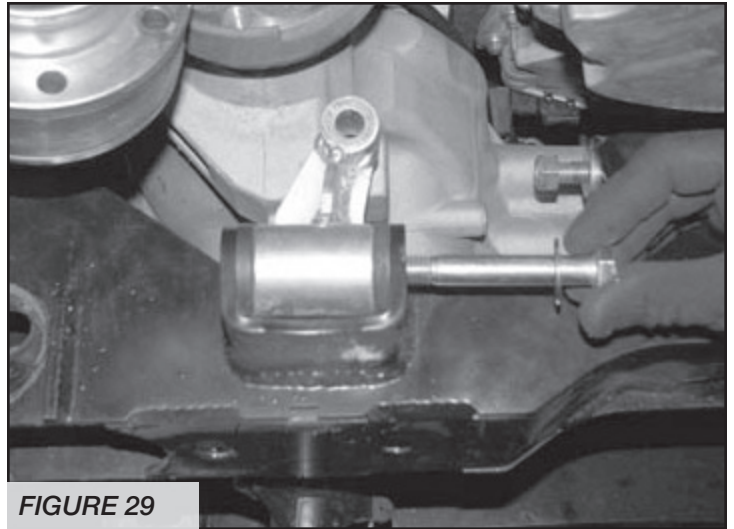

FIGURE 29
26. Locate the rear diff mount (FT30422). Install two of the Fabtech (FT1020) bushings and one sleeve (FT181) into the barrel on the differential bracket. Install the diff mount into the rear crossmember tabs using a 1/2"-13 x 4" bolt, 2 flat washers and a C lock nut. Leave all hardware loose. **SEE FIGURE 29**